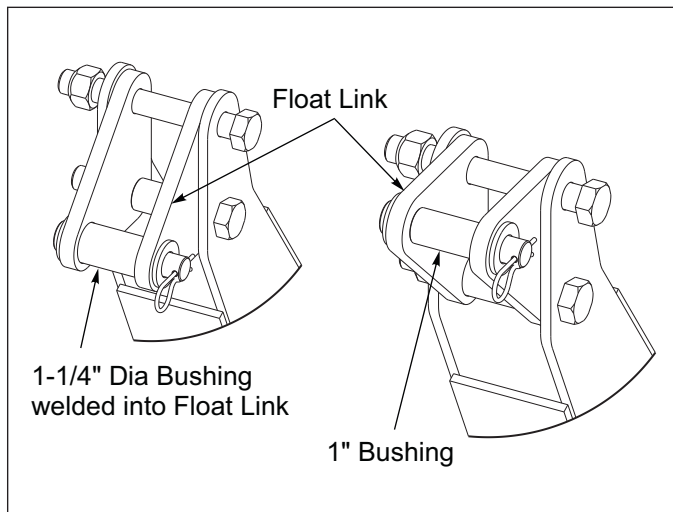

Figure 3-3: Float Link Rotated
- Upper Hitch Float Link can be reassembled to the Upper Mast to achieve the upper and lower hitch pin distance for the tractor Free Link or Quick Coupler Hitch Category being used. **See Figure 3-3.** Quick Coupler requires a 15" upper to lower hitch pin distance where as the Free Link requires an 18-1/4" upper to lower hitch pin distance.